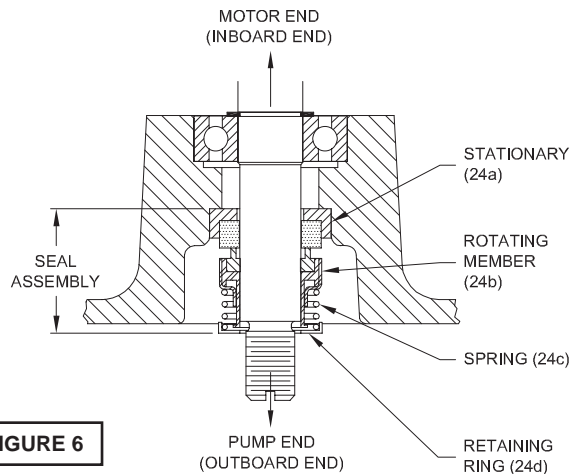
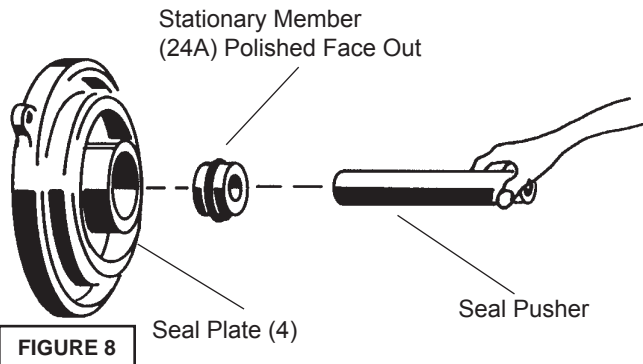
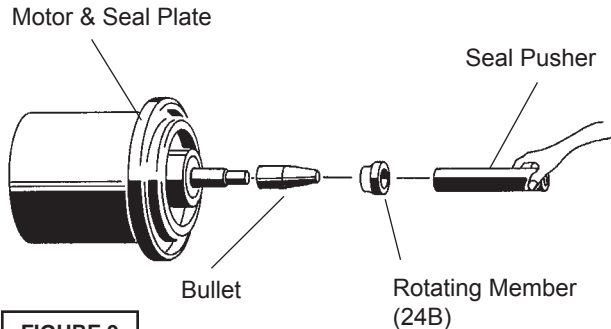

FIGURE 6
FIGURE 8
FIGURE 9
To expose shaft seal (24) for examination, disassemble volute and impeller as outlined in paragraph F-2.1. If further repair is required, remove retaining ring (24d), spring (24c) and rotating member (24b) from shaft (see Figures 6 & 7). Examine all seal parts and especially contact faces. Inspect seal for signs of wear such as uneven wear pattern on stationary members, chips and scratches on either seal face. **DO NOT** interchange seal components, replace the entire shaft seal (24). If replacing seal, remove stationary (24a) by prying out with flat screwdriver.
Clean and oil seal cavities in seal plate (4). Lightly oil (**DO NOT use grease**) outer surface of stationary member (24a). Press stationary member (24a) firmly into seal plate (4), using a seal pusher (see parts list - seal tool kit). Nothing but the seal pusher is to come in contact with seal face (see Fig 8). Make sure the stationary member is in straight. Slide a bullet (see parts list - seal tool kit) over motor shaft. Lightly oil (**DO NOT use grease**) shaft, bullet and inner surface of bellows on rotating member (24b) see Figure 9. With lapped surface of rotating member (24b) facing inward toward stationary member, slide rotating member over bullet and onto shaft, using seal pusher, until lapped faces of (24a) and (24b) are together (see Figure 6).